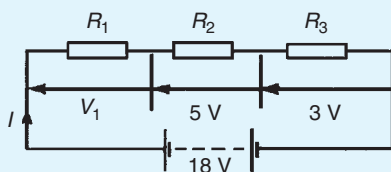

Figure 5.9
- For the circuit shown in Fig. 5.9, determine the value of V_1 . If the total circuit resistance is 36 Ω determine the supply current and the value of resistors R_1 , R_2 and R_3